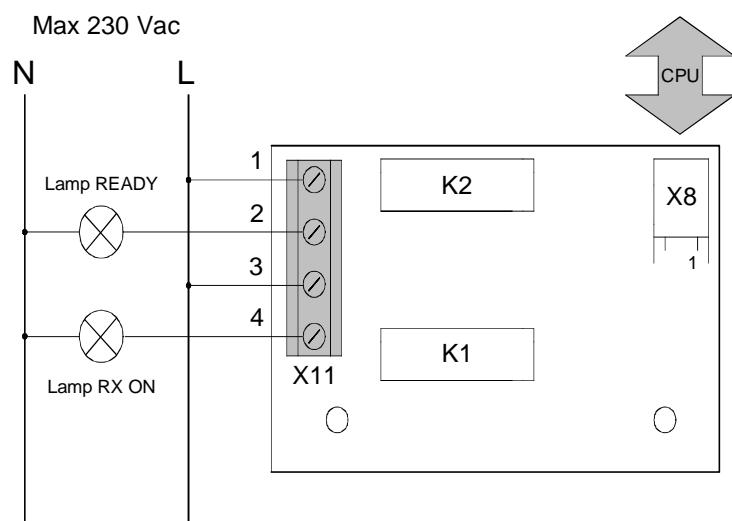

Figure 6-14
- A signaling device indicating "READY" and "RX ON" status can be connected to X11 connector of the "External signal" board A5 (Figure 6-14).